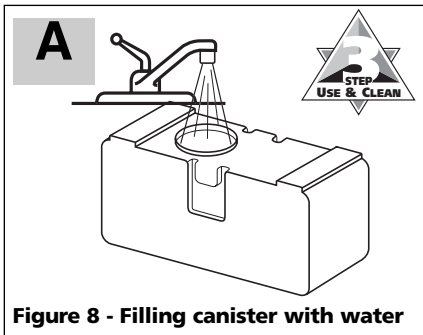

Figure 8 - Filling canister with water
3. Fill canister with warm water and reattach motor housing (see Figure 8). While holding roller frame in sink, turn the motor to 'High' and flush system.